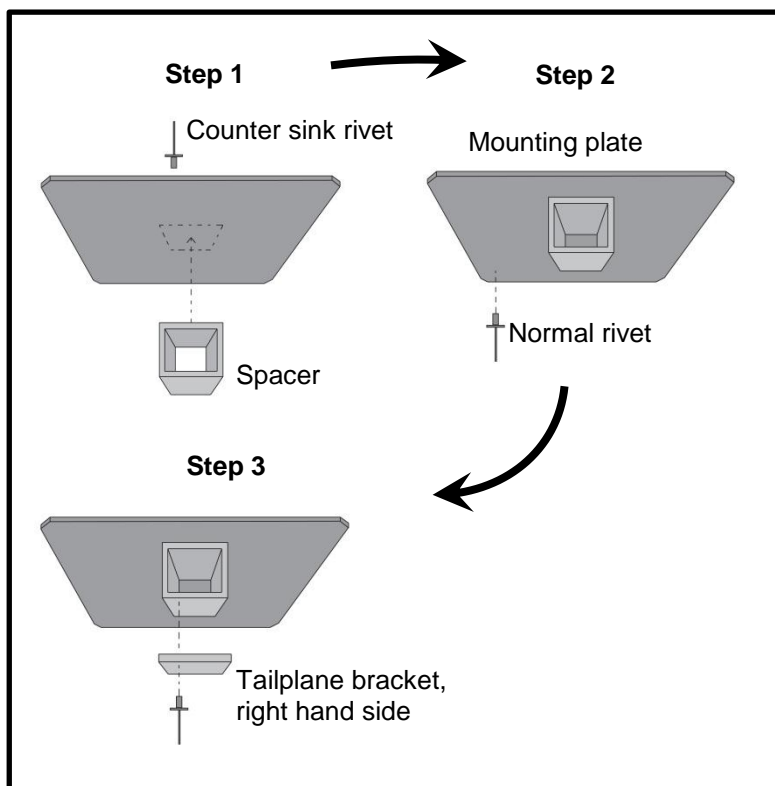
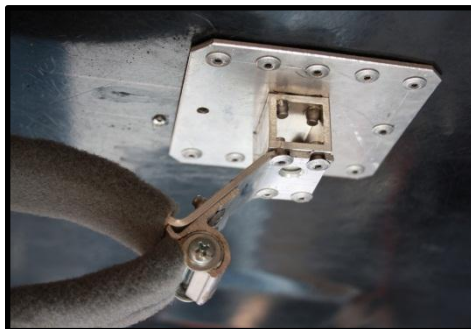

Figure 8
Figure 9
4.2.1. Reinstalling the right hand side of the tailplane bracket as illustrated step wise in Figure 8. Figure 9 illustrates the modification when complete.